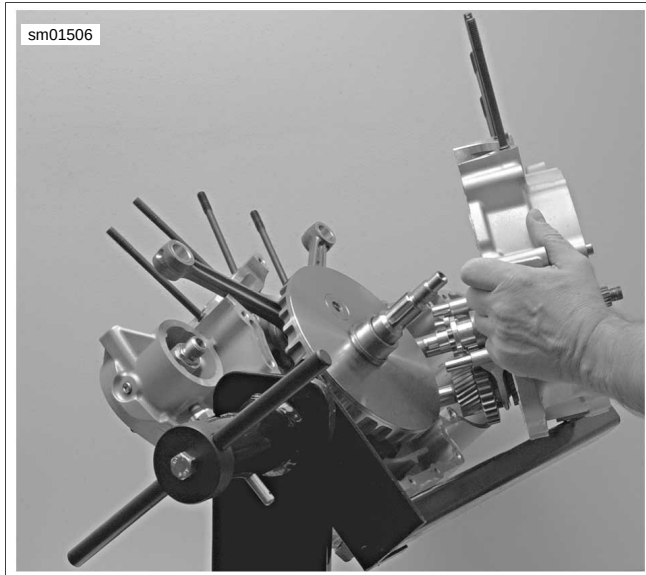

Figure 3-75. Separating Crankcase Halves
6. Tap crankcase gently with rawhide mallet to loosen and separate the halves. See Figure 3-75. Remove left crankcase assembly with transmission.